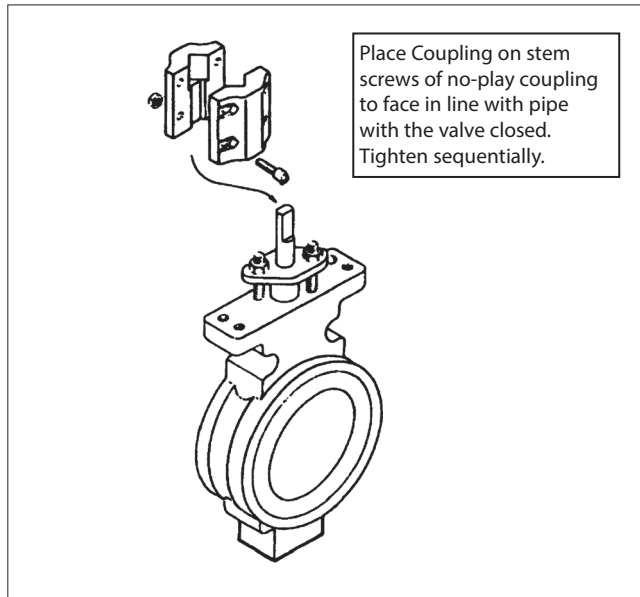

Figure 10.
2. Assemble bracket to actuator as shown in **(Figure 10)**. Tighten to torque listed in **(Table 3)**.